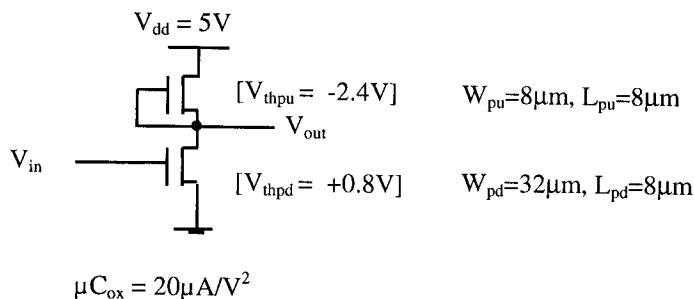

Figure 1
1. For the nMOS inverter of figure 1, calculate the following (clearly state and verify transistor operation modes in each case) :